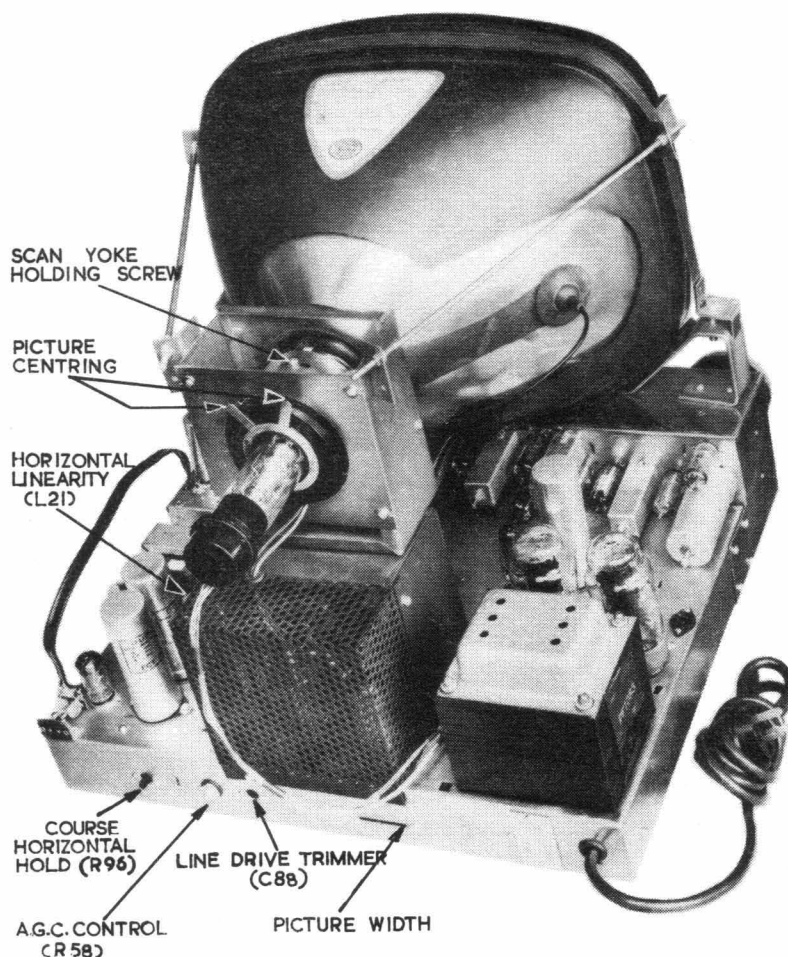

FIG. 3.
- (a) Refer to Fig. 3, which shows the location of the controls.